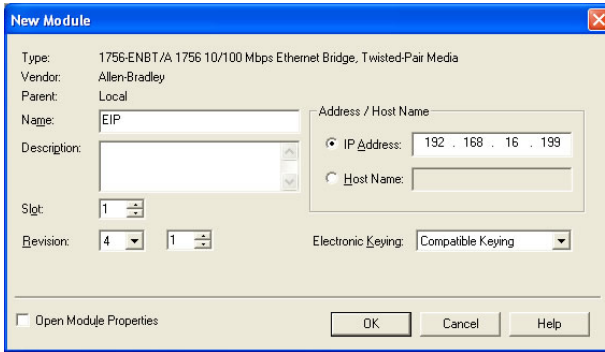

Figure 83: Configuring the New Module
- 6) The “New Module” window will open. Refer to Figure 83.